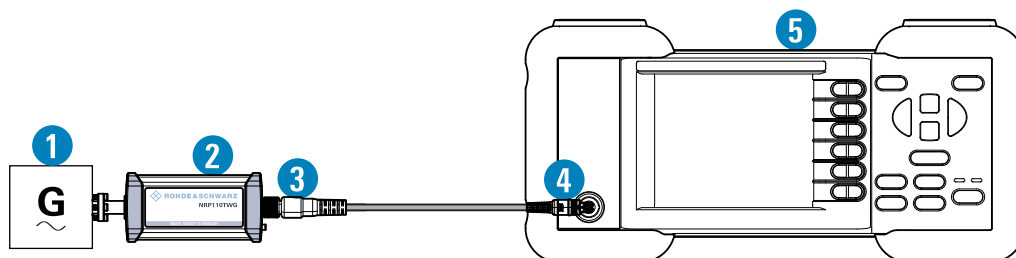

Figure 5-4: Setup with an R&S NRP2 base unit
1. Connect the cables as shown in Figure 5-4: